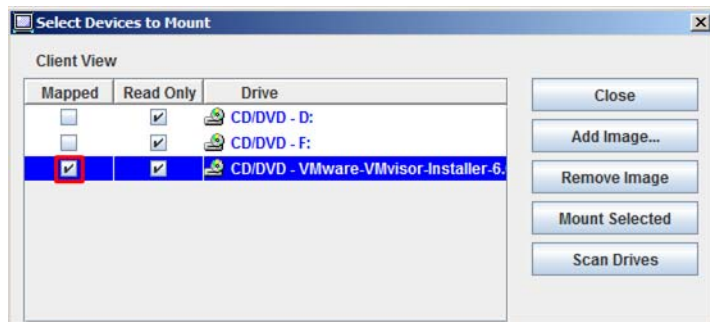

Figure 6-6 Selected image mounting
7. After adding an image, select the drive that you want to map and click **Mount Selected**, as shown in Figure 6-6.